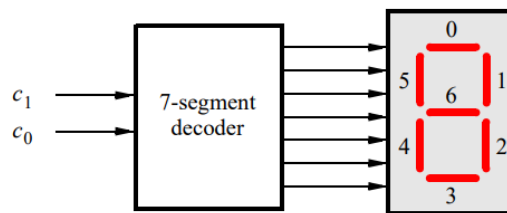

Figure 1: A 7-segment decoder.
The objective of this part is to display a character on a 7-segment display. The specific character displayed depends on a two-bit input. Figure 1 shows a 7-segment decoder module that has the two-bit input c_1c_0 . This decoder produces seven outputs that are used to display a character on a 7-segment display. Table 1 lists the characters that should be displayed for each valuation of c_1c_0 for your DE-series board. Note that in some cases the ‘blank’ character is selected for code 11.
2. Create a Verilog module for the 7-segment decoder. Connect the c_1c_0 inputs to switches SW1–0 and connect the outputs of the decoder to the HEX0 display on your DE-series board. The segments in this display are called HEX00, HEX01, . . . , HEX06, corresponding to Figure 1. You should declare the 7-bit port 1 **output [6:0] HEX0**; in your Verilog code so that the names of these outputs match the corresponding names in your board’s user manual and pin assignment file.